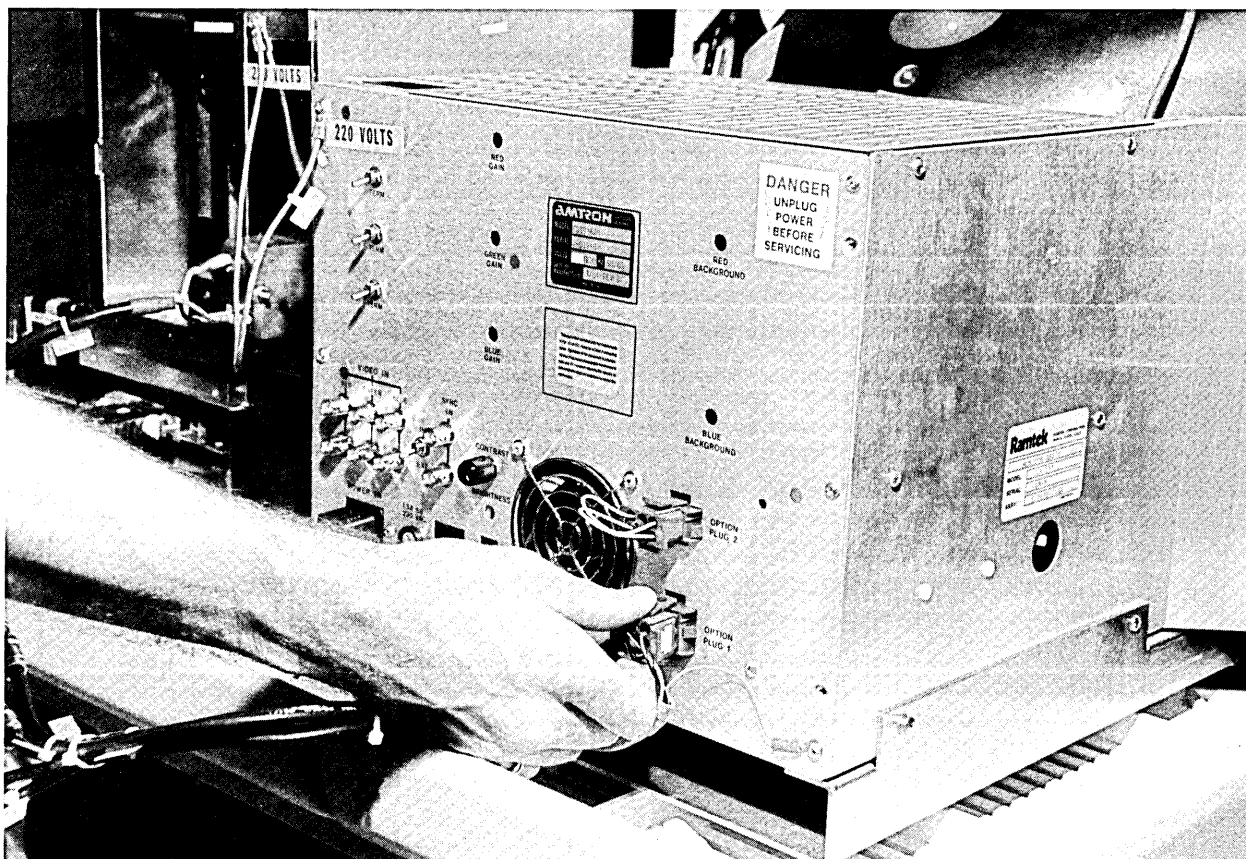

Figure 5-29. Removing Connections to Color Monitor
2. See figure 5-29. Remove all connections to the rear of the monitor, beginning with the connector labeled POWER IN. Remove the two ground wires fastened under screw heads.